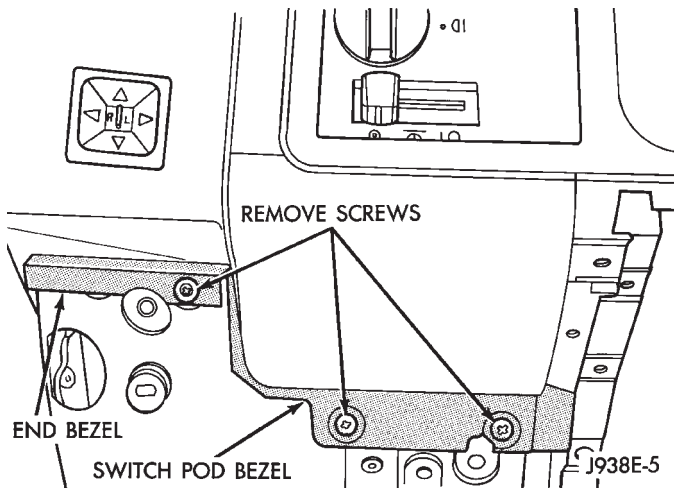

Fig. 7 Remove Screws Holding Bottom Of Bezels
- (15) Remove 6 screws holding knee blocker.
- (16) Remove steering column retaining nuts.
- (17) Remove 3 screws holding bottom of bezels (Fig. 7).